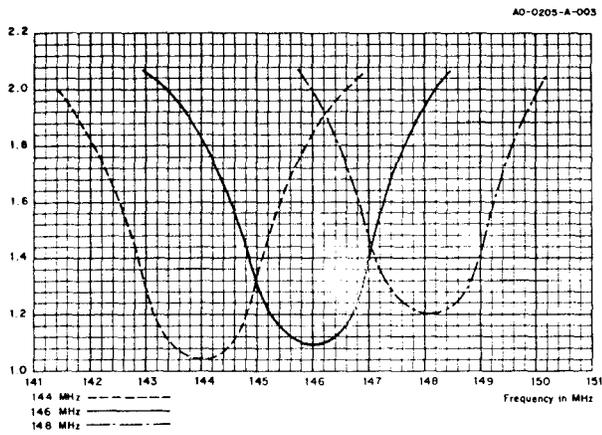

Figure 2A VSWR for Both Vertical and Horizontal Polarization
**Driven Element:** SWR can be lowered to less than 1.2:1 at a desired frequency by carefully trimming the driven element. Keep The element symmetrical by cutting the same amount from each side. Typical SWR curves are shown in Figure 2A, and a cutting chart is shown in Figure 213. Each installation is slightly different, so cut the driven element for the lowest SWR at your particular location. Measure the SWR as close to the antenna as you can for accurate results.